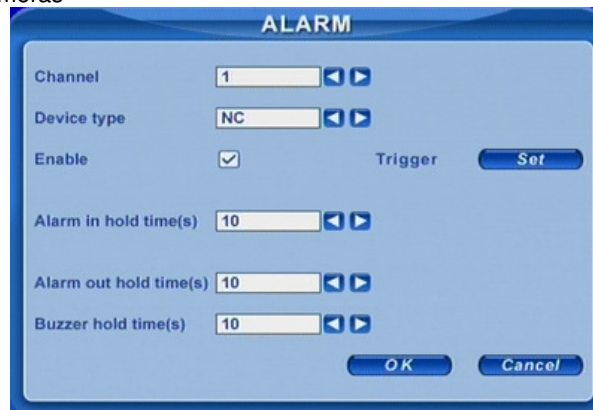

Fig 3.13 Sensor Alarm Setup
- STEP1** Enter ALARM configuration, see Fig 3.13 Sensor Alarm Setup. Select cameras